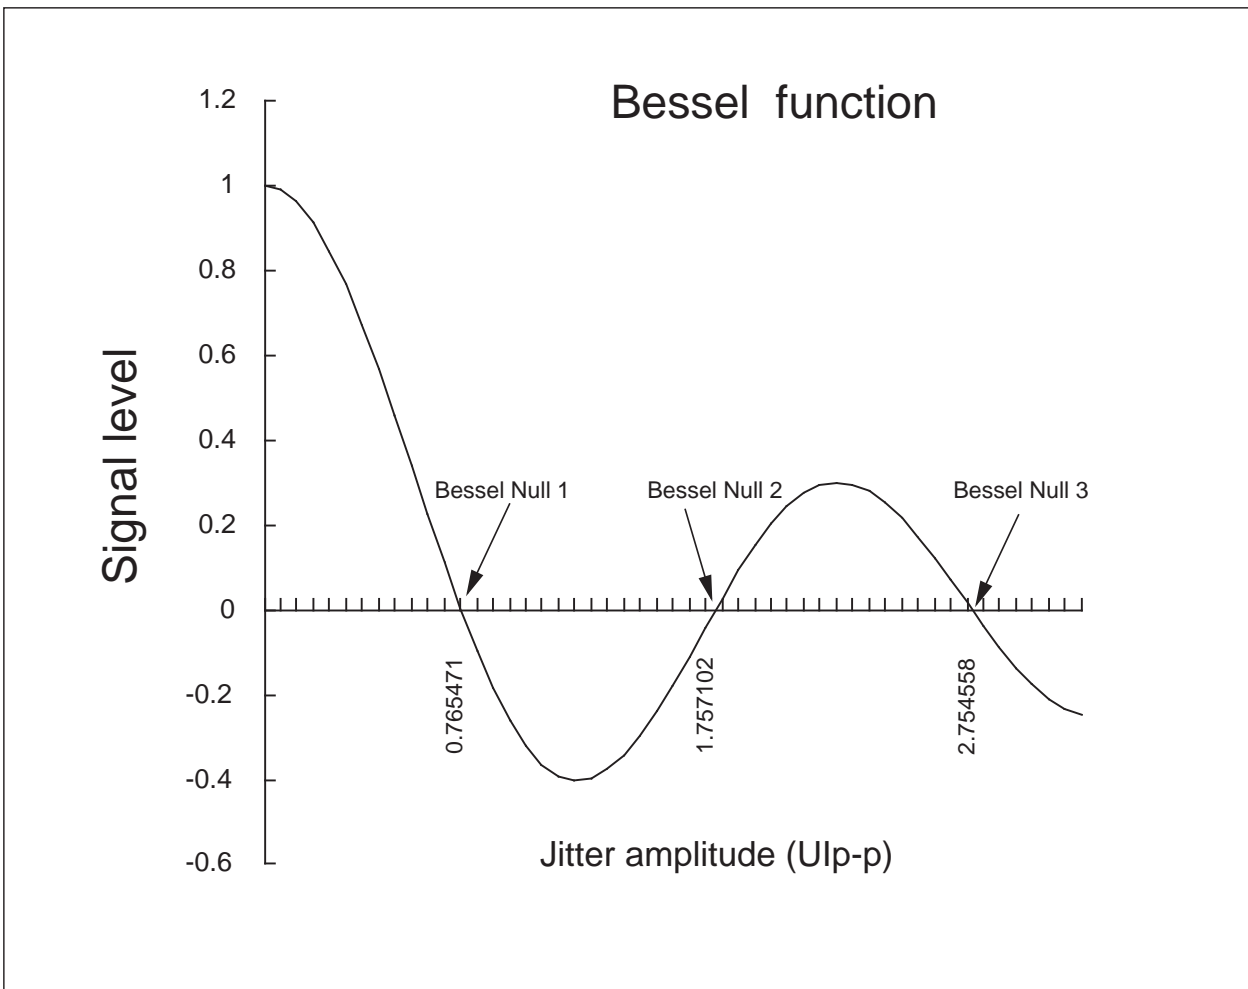
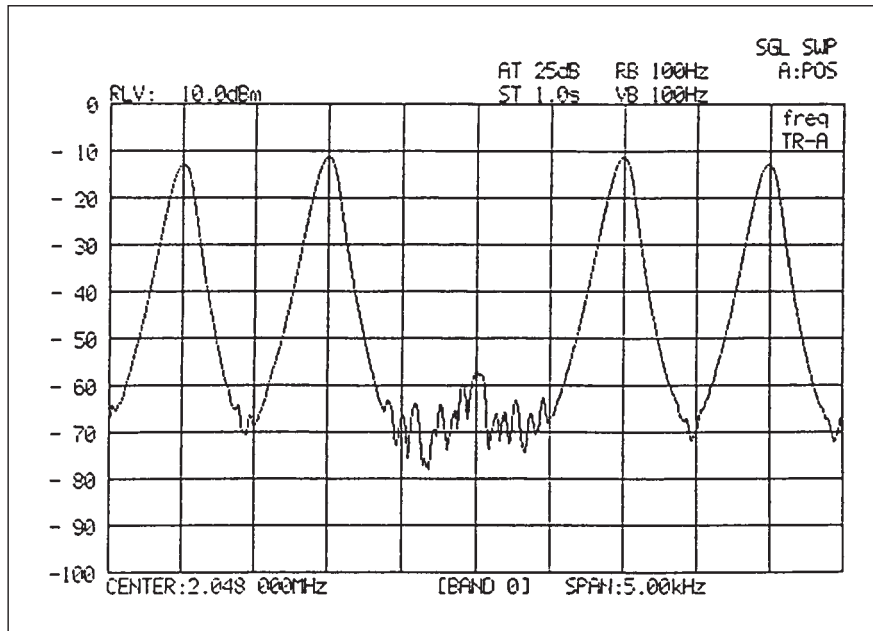

Figure 3-1 Bessel Function
Figure 3-2 Bessel Null Spectrum
Generally the calibration for the phase modulation (PM) makes use of a Bessel null point. This method uses the characteristic that when a sine wave phase modulation deviation varies, the output carrier level changes according to the deviation as the function curve shown in Fig. 3-1. Using a spectrum analyzer, it calibrates the jitter modulation deviation at the function curve zero (Bessel null point). It allows accurate calibration for large jitter modulations that exceed 1 UI without any effect on the spectrum analyzer's linearity. Figure 3-2 shows an actually observed spectrum at the Bessel null point. In addition, Figure 3-3 shows the jitter amount for a Bessel null of 1 to 20 (carrier signal).